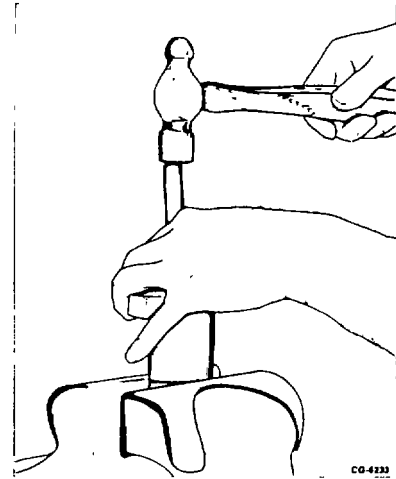

Figure 32. - Removing Shaft with Brass Drift
5. Tap out the shaft and ball bearing assembly from the rear of the bracket. Use a brass drift, as shown in Figure 32.